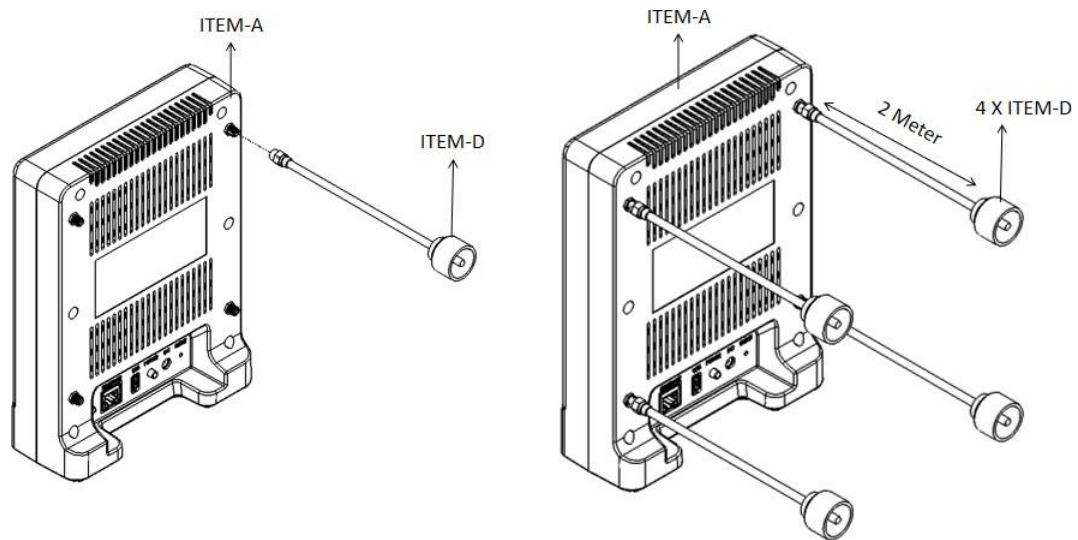

Figure 13 External Antenna Cable Installation - 1
- b) Connect the RPSMA cable assembly (Item-D) to the panel mount SMA connector on the device (Item-A) as shown in Figure 13. Tighten by hand. Be sure not to over-tighten the antenna.